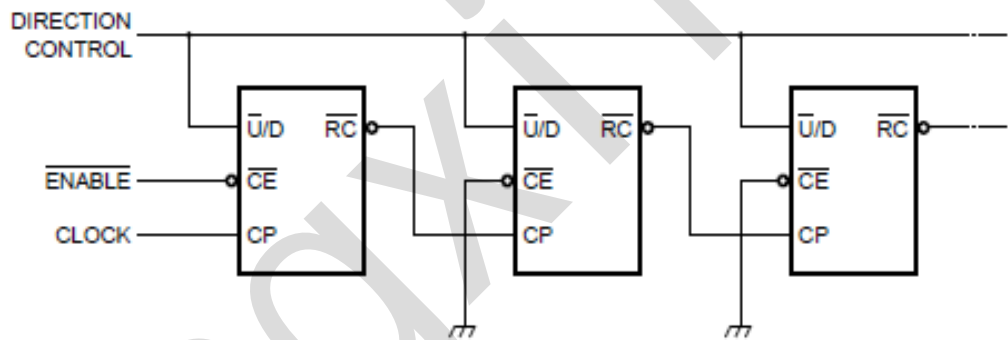
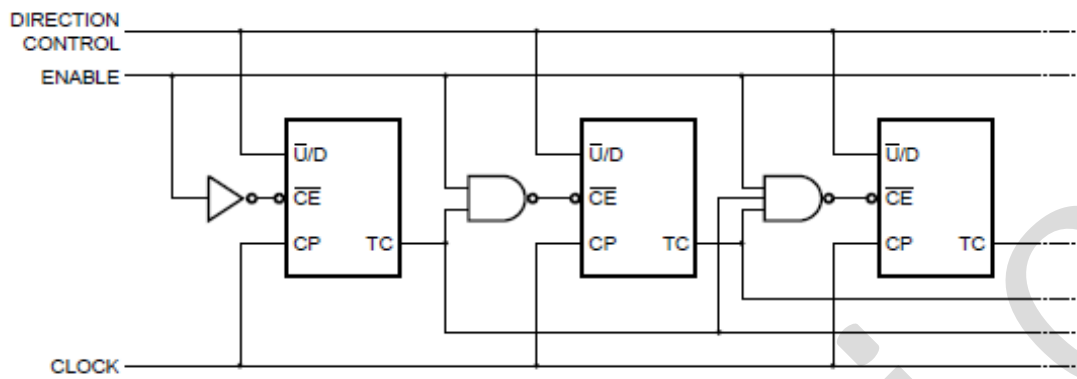

Figure 5. N-stage ripple counter using ripple clock
Figure 7. Synchronous n-stage counter with parallel gated carry/borrow
Overflow/underflow indications are provided by two types of outputs, the terminal count (TC) and ripple clock (\overline{RC}). The TC output is normally LOW and goes HIGH when a circuit reaches zero in the count-down mode or reaches “9” in the count-up-mode. The TC output will remain HIGH until a state change occurs, either by counting or presetting, or until $\overline{U/D}$ is changed. Do not use the TC output as a clock signal because it is subject to decoding spikes. The TC signal is used internally to enable the \overline{RC} output. When TC is HIGH and \overline{CE} is LOW, the \overline{RC} output follows the clock pulse (CP). This feature simplifies the design of multistage counters as shown in Figure 5 and 6.
In Figure 5, each \overline{RC} output is used as the clock input to the next higher stage. It is only necessary to inhibit the first stage to prevent counting in all stages, since a HIGH on \overline{CE} inhibits the \overline{RC} output pulse as indicated in the function table. The timing skew between state changes in the first and last stages is represented by the cumulative delay of the clock as it ripples through the preceding stages. This can be a disadvantage of this configuration in some applications.
In Figure.7, the configuration shown avoids ripple delays and their associated restrictions. Combining the TC signals from all the preceding stages forms the \overline{CE} input for a given stage. An enable must be included in each carry gate in order to inhibit counting. The TC output of a given stage is not affected by its own \overline{CE} signal therefore the simple inhibit scheme of Figure 5 and 6 does not apply.